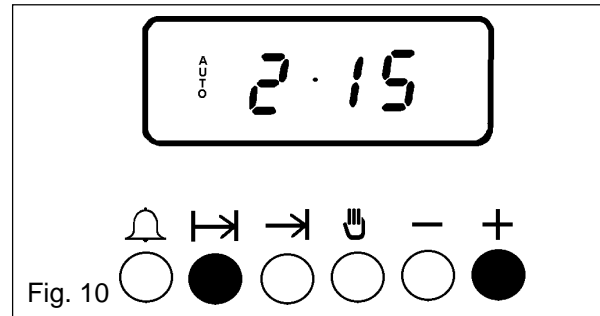

Fig. 10
- iii) To set the length of cooking time, press the cooking hours button (H→), while holding it down, depress the increase control (+) until the required length of cooking time is displayed, e.g. 2 hrs 15 mins as Fig. 10. Depress the decrease control (-) if necessary.